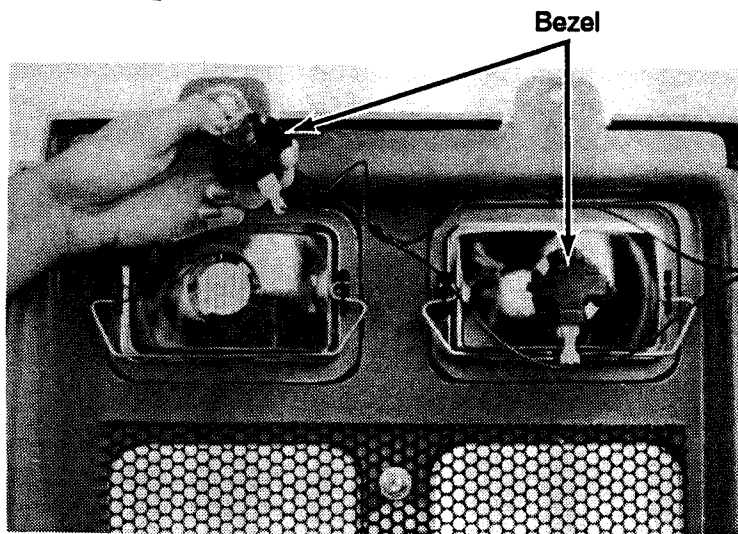

Figure 14. Headlights.
2. Rotate the black bezel dial (Refer to Figure 14) 1/4 turn counterclockwise. Pull unit out of opening. Pull bulb out. Replace bulb with one of the same type and wattage. Insert unit in opening. Rotate dial 1/4 turn clockwise to fasten.